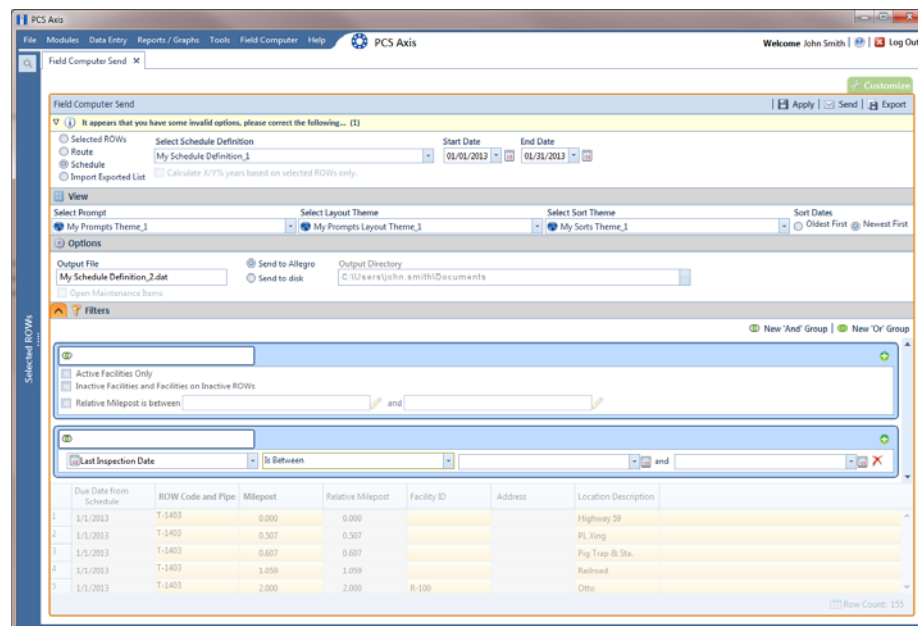

Figure 13-12. New 'And' Filter Group
- 16** To filter records in the grid and in the schedule sent to the Allegro based on a subset of records that meet *all* filter conditions, complete the following steps to add a new AND filter group (Figure 13-12):